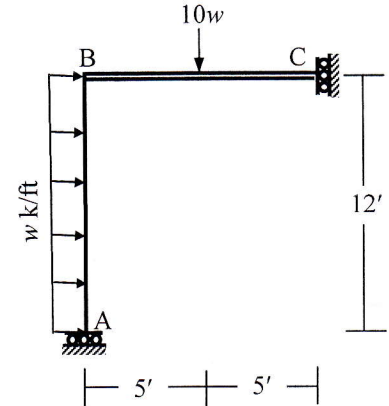

Fig. 7
8. Consider flexural deformations and geometric nonlinearity to calculate the distributed load w required to cause buckling of the frame ABC loaded as shown in Fig. 7
9. Consider flexural deformations only (with consistent mass matrix) to calculate the natural frequencies of the frame ABC shown in Fig. 7